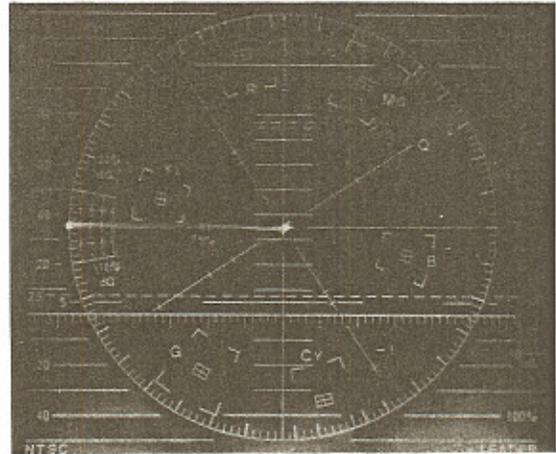

Figure 5-13
- Set the Model 5870 into the VECT mode. Adjust the level and phase by using MAG $\times 5$, GAIN VAR, and PHASE as shown in Fig. 5-13. When the DG and DP values are large, measure them using the scale on the lower-left of the -(B-Y) axis. DG values from 2% to 20% and DP values 2° to 10° can be measured. For DG and DP under 2% and 2° , perform the following.